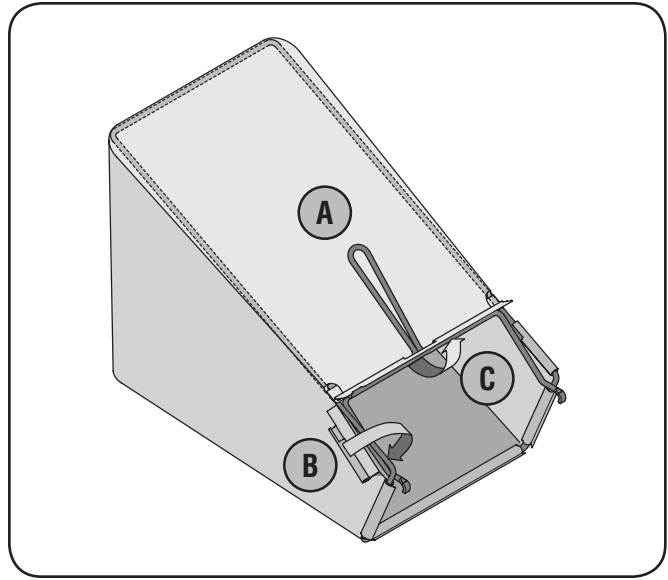

Figure 3-4
- b. Slip plastic channel of grass bag over hooks on the frame. See Fig. 3-4. All the plastic channels except center top of bag attach from outside of bag.